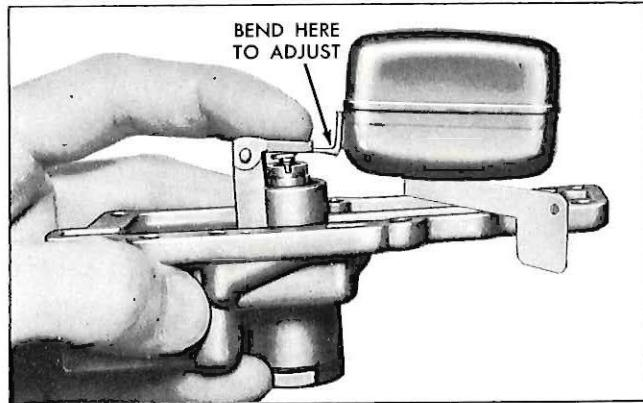

Fig. 8—Adjusting Float Level
3. Invert cover and measure the distance between cover gasket surface and float at center of float (fig. 8). This FLOT LEVEL dimension should be  $\frac{5}{8}$ " or use Tool J-21056.
4. Adjust, if necessary, by bending float arm as shown in Figure 8.